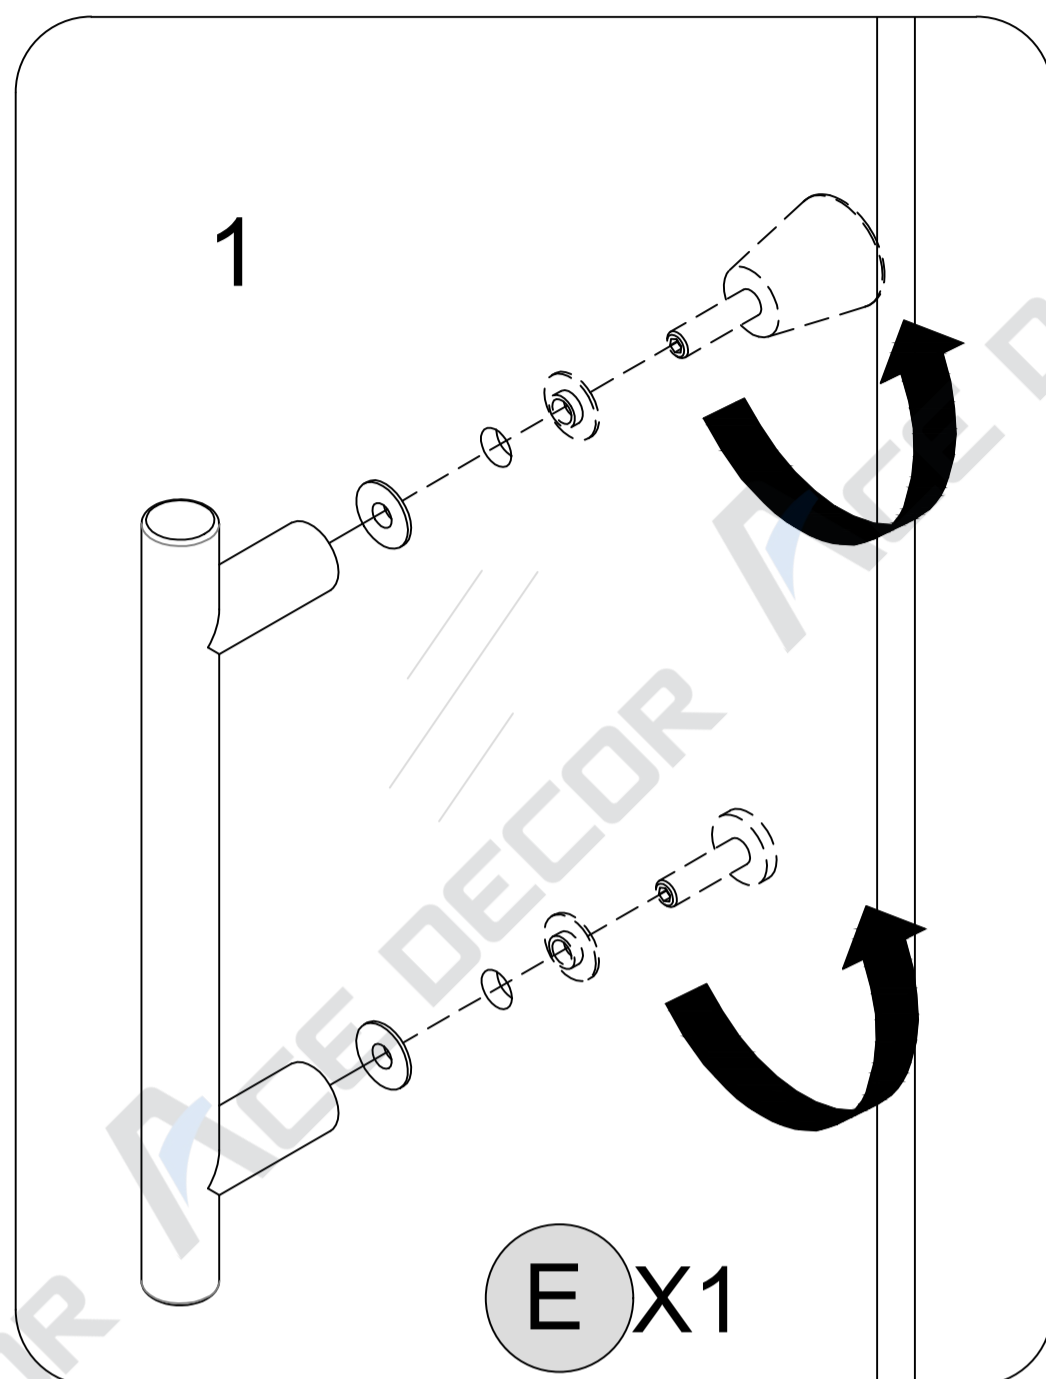

Fig 16
Attach the **Handle (E)** to the **Glass Door (H)** .(Fig 16) (Knob is placed upward)